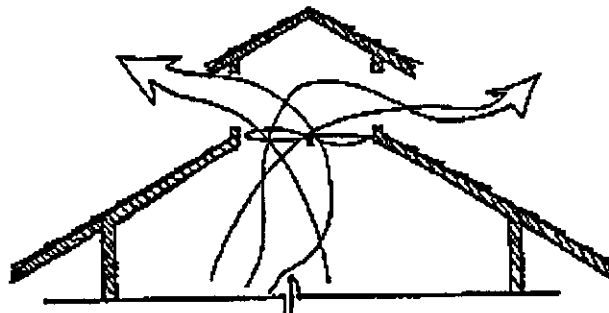

Figure 3.7 Vented outlet
- ✎ Although many of the vernacular styles had 10-foot high living spaces which worked well when air flow was present, when the breezes died the warm air would build up in the attic or ceiling space, making it too hot for comfort. Using roofing insulation and/or a ventilated double roof or ventilated attic design, as seen in Figure 3.7, may solve this problem. See Chapter 9 for more attic ventilation techniques.